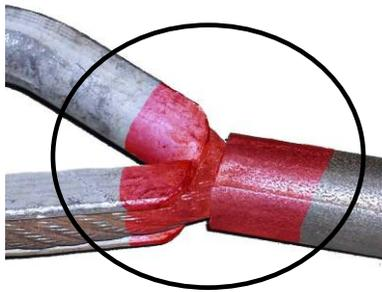

Figure 1. Painted swage
- a. Inspect swage and wire rope eyes for slippage. If slippage has occurred, see Figures 1 and 2, dispose of the leadline.